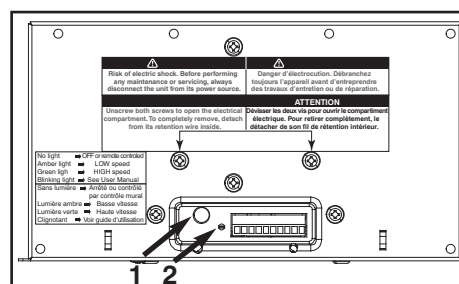

Fig. 11 - Integrated Control
All units are equipped with an integrated control, located under the unit, in front of the electrical compartment. Use the push button (1) to control the unit. The LED (2) will then show on which mode the unit is in. Integrated Control overrides Wall Control function. When LED is off, ventilator responds to Wall Control command. See Fig. 11.